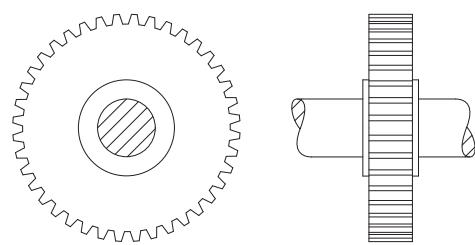

Fig. 10
- (b) Gears often have to be fixed to a shaft. Fig. 10 shows a gear on a shaft.
Use notes and sketches to describe how the gear in Fig. 10 could be fixed to prevent rotation of the gear on the shaft.